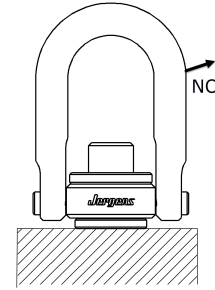

Fig 3
- The load applied to the hoist ring shall be centered in the bail/U-shape. Never pull hoist ring bail/U-shaped ring from a side (Fig.3).